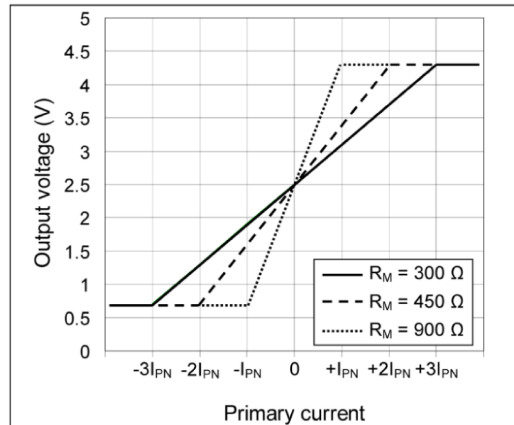

Fig. 1: Characteristic of primary current to output voltage according to different R_M . $V_{refout} = 2.5\text{ V}$.
4) Output voltage is scaled by changing R_M but not beyond these limits. See Fig.1.
- 3) $R_M > 300\ \Omega$: reduces I_{PR} but increases G_V . See Fig.1.